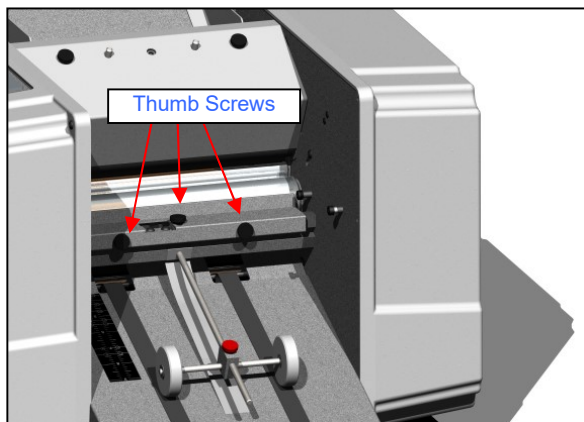

Figure 13: Roll Wiper Assembly
2. Remove the three thumb screws holding the **roll wiper assembly** and remove it from the machine [See Figure 13].
control Figure 13: Manual Mode